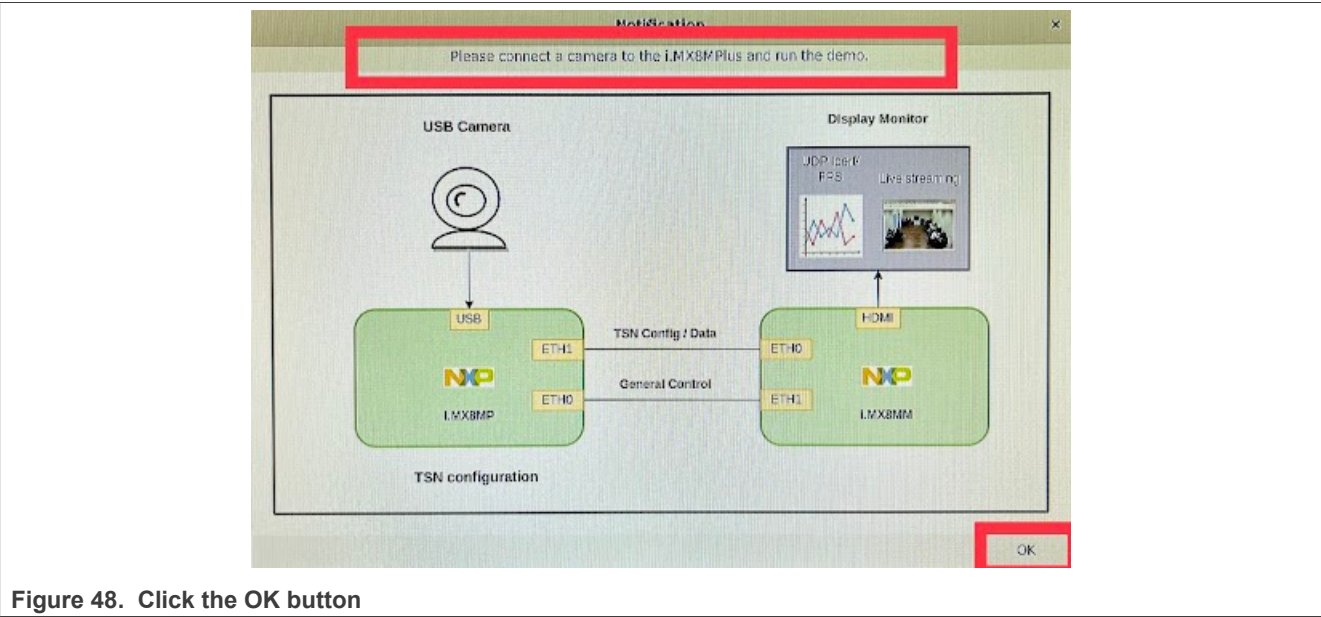

Figure 48. Click the OK button
- If Ethernet connections are successful and the camera is not connected, the window shown in the Figure 48 displays. To get back to the Launch demo window, click the **OK** button.